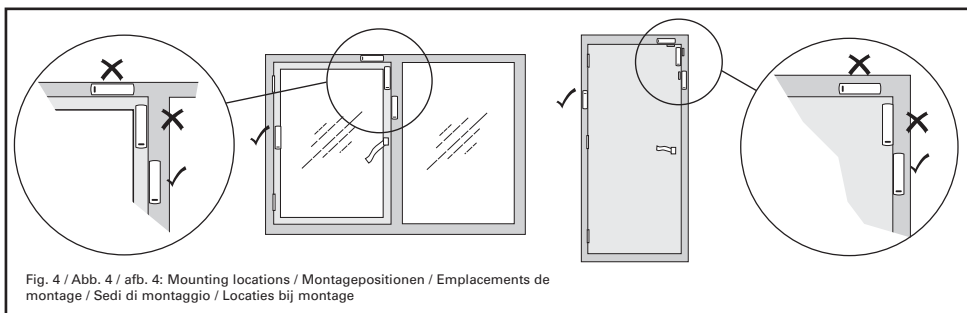
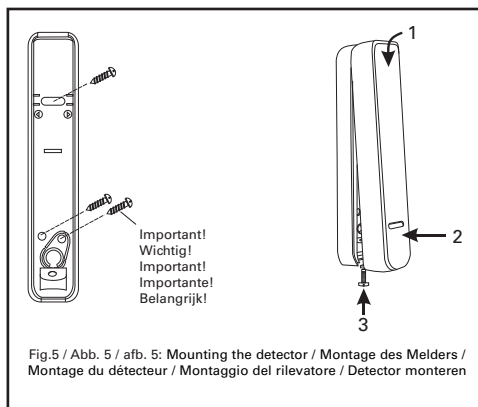

Fig. 4 / Abb. 4 / afb. 4: Mounting locations / Montagepositionen / Emplacements de
Fig. 5 / Abb. 5 / afb. 5: Mounting the detector / Montage des Melders /
- When mounting on a door or window frame, the device must be mounted high-up, vertically on the non-moving part of the frame (Fig 4).
Mount the detector and refit the cover; see Fig. 4 and Fig. 5.